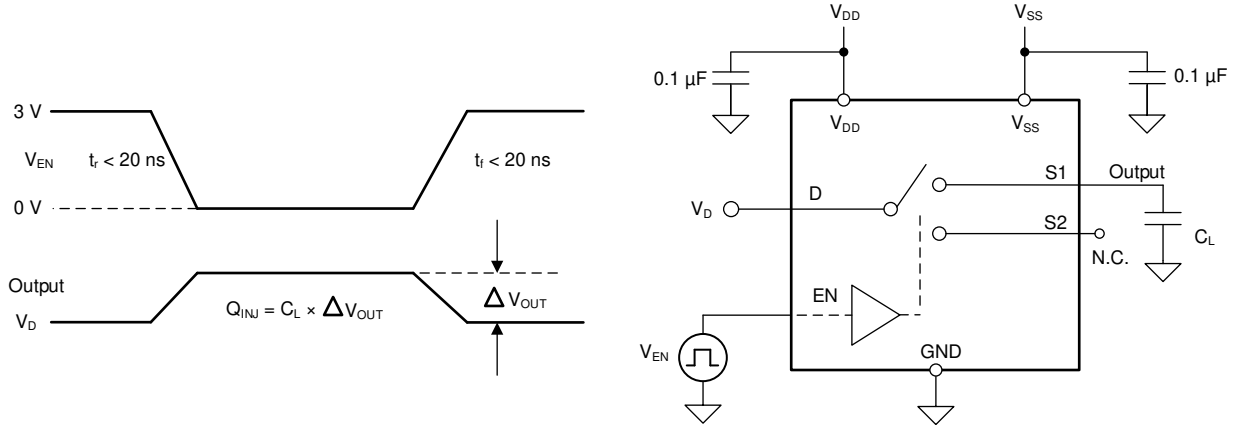

Figure 6-9. Charge-Injection Measurement Setup
The TMUX6219 has a transmission-gate topology. Any mismatch in capacitance between the NMOS and PMOS transistors results in a charge injected into the drain or source during the falling or rising edge of the gate signal. The amount of charge injected into the source or drain of the device is known as charge injection, and is denoted by the symbol Q_C . Figure 6-9 shows the setup used to measure charge injection from source (Sx) to drain (D).